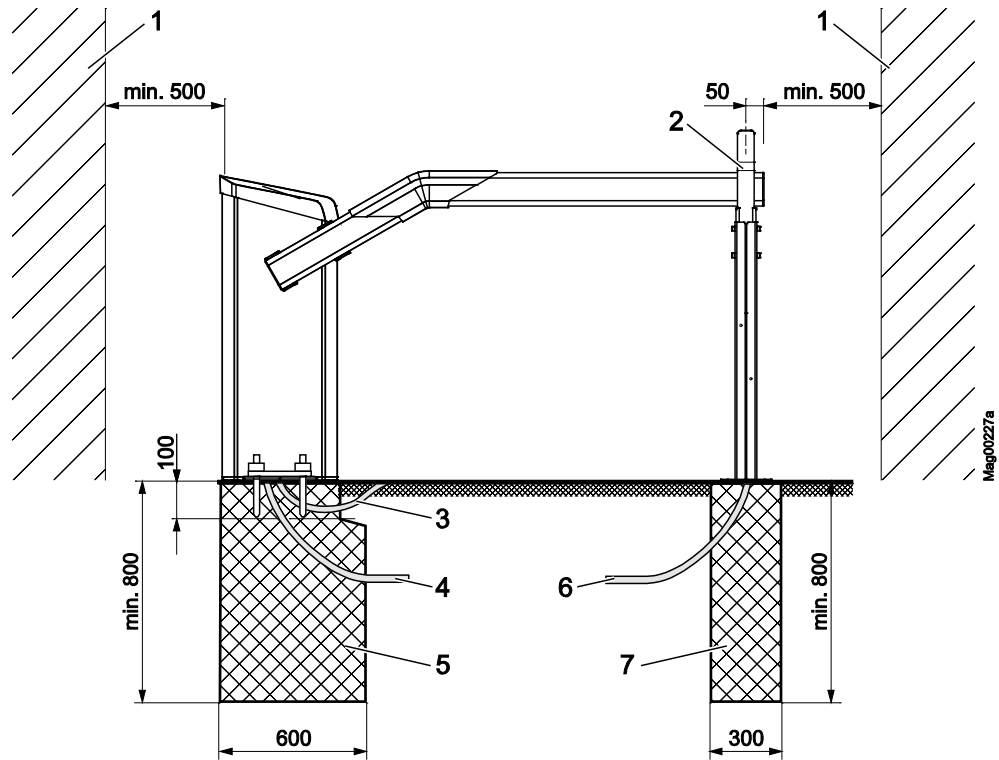
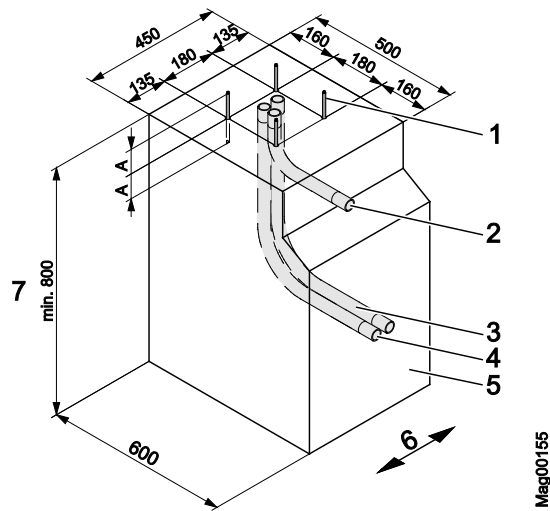
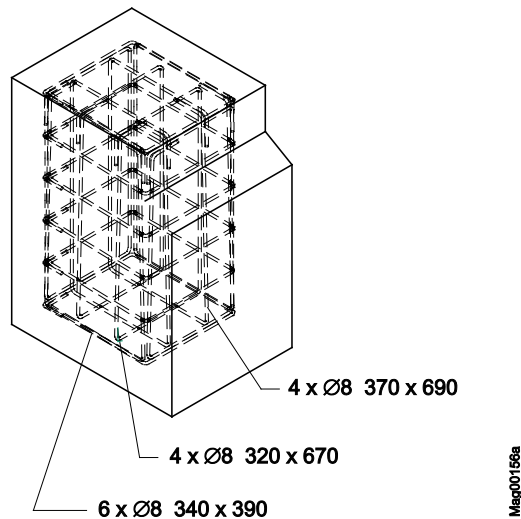
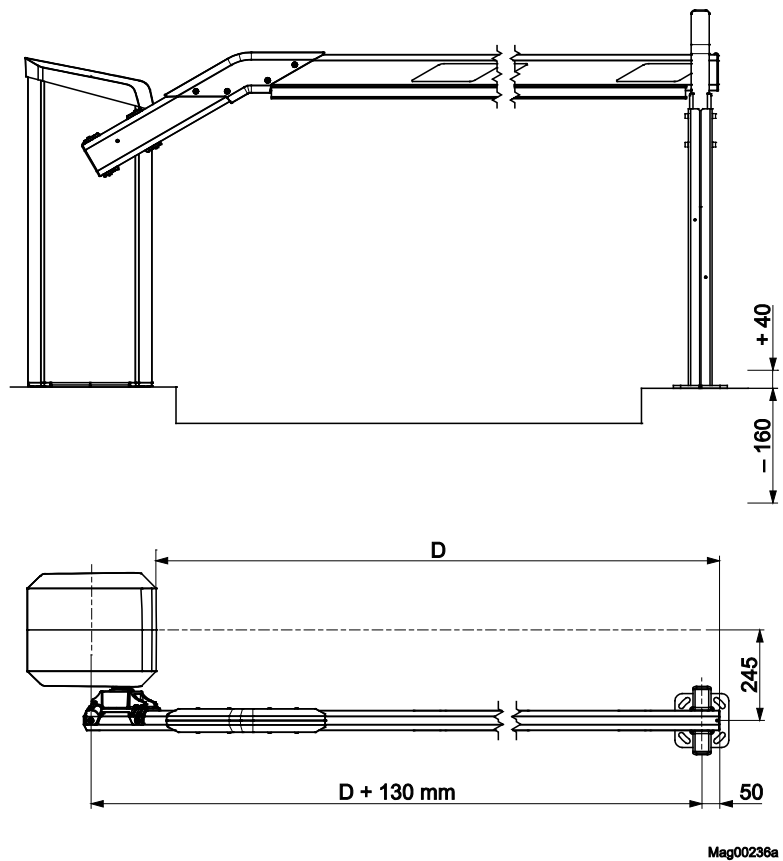

Fig. 13: Assembly boom system, here illustrated for barrier type "Access/Parking" (dimensions in mm)
Fig. 14: Foundation plan (dimensions in mm)
Fig. 15: Reinforcement grid (dimensions in mm)
Fig. 16: Dimensions barrier casing – post, (dimensions in mm)
<p>Danger of crushing and shearing if the safety distance between the barrier boom and other objects is too low!</p> <p>A closing or opening barrier boom can cause severe injuries from crushing if the safety distance to other objects is too low!</p> <ul style="list-style-type: none">– Keep a safety distance of at least 500 mm between the barrier boom and other objects, such as walls, masonry or houses. → See page 23, chapter 2.7.– Assemble and install barrier system according to Fig. 13.
- Keep a safety distance of at least 500 mm between the tip of the barrier boom and other objects, such as walls, masonry or houses. → See page 50, Fig. 13.
→ See page 50, Fig. 13 and page 52, Fig. 15.
→ See page 52, Fig. 14.
1. Dig foundation hole pursuant to Fig. 13 and Fig. 14.
2. Place reinforcement grid pursuant to Fig. 15 in the foundation hole.
3. Place empty conduits pursuant to Fig. 14 in the foundation hole.
5. Fill concrete foundation pursuant to Fig. 14.
- Place post centre at a distance of 50 mm from the barrier boom tip. → See page 54, Fig. 16.
→ See page 50, Fig. 13 and page 55, Fig. 16.